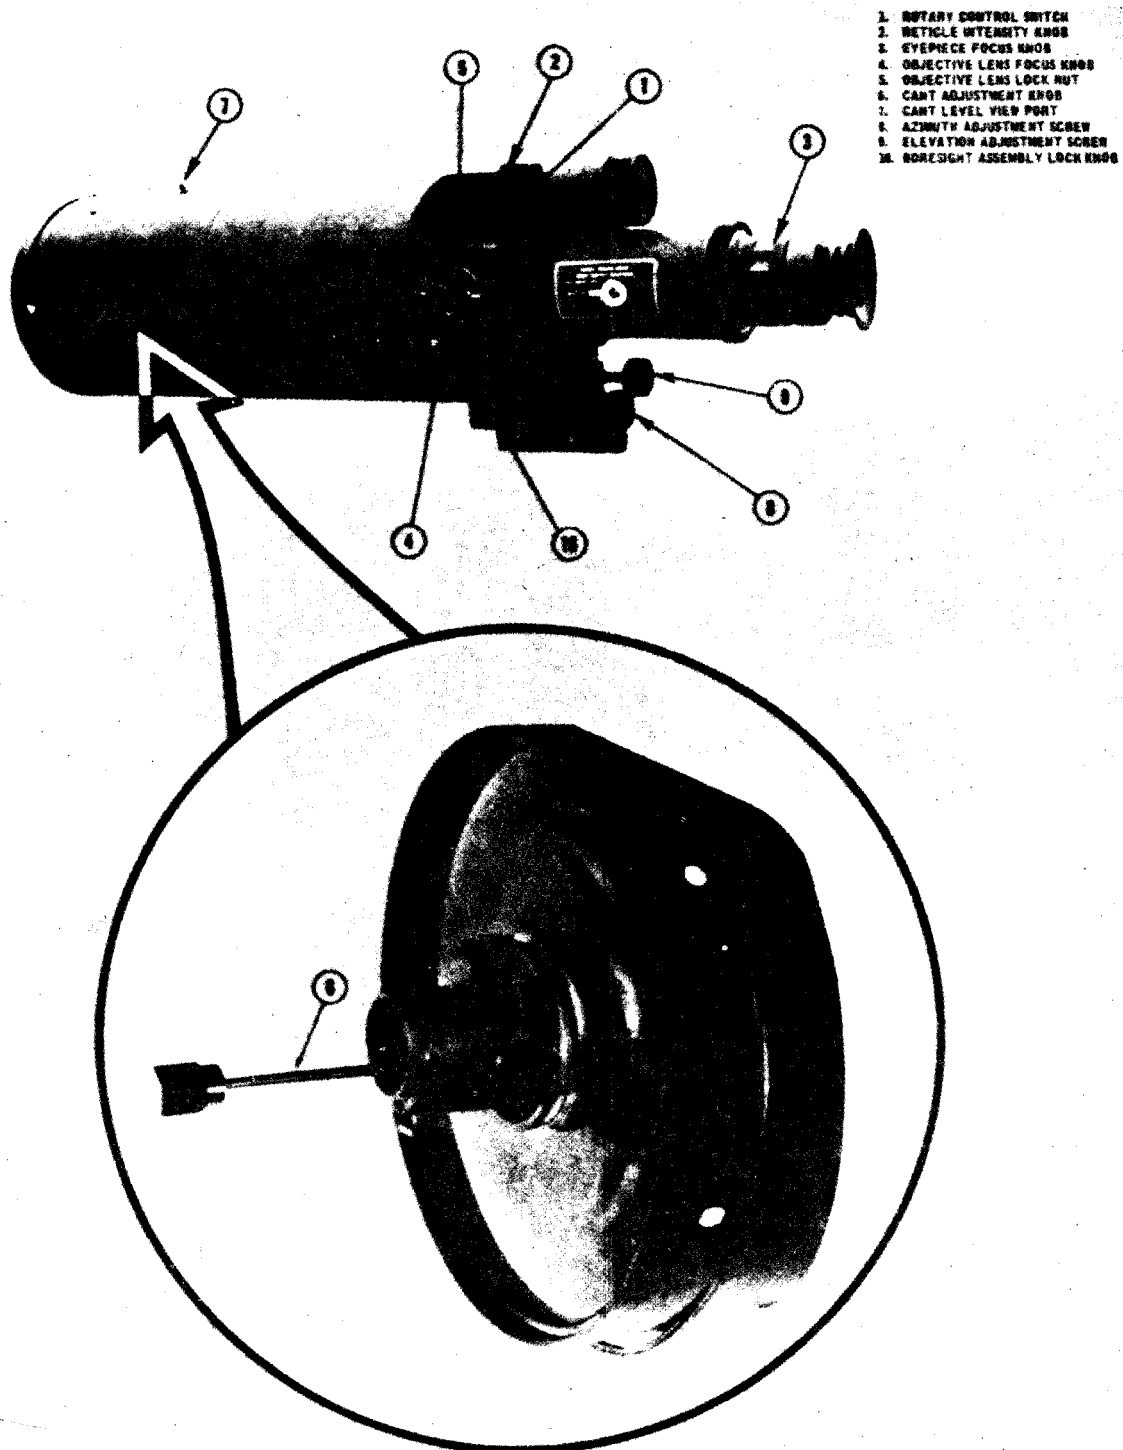

Figure 4. Sight controls.
**11. General.** Prior to operating the Sight, the operator must become familiar with the controls described in paragraph 12 (fig 4).
**12. Controls (Fig 4).** *a.* *A Rotary Control Switch (1).* Provides four positions: OFF, CANT LEVEL ILLUMINATION ON, TUBE ON, TUBE ON RETICLE ON.
*b.* *Reticle Intensity Knob (2).* Allows the operator to increase or decrease the brightness of the reticle under various light conditions. To increase the brightness of the reticle pattern, turn the reticle intensity knob counterclockwise. To decrease brightness, turn the reticle intensity knob clockwise.
*c.* *Eyepiece Focus Ring (3).* Provides diopter setting from +4 to -4 diopters for individual eye focusing.
*d.* *Objective Lens Focus Knob (4).* Allows the operator to focus the objective lens for range (distance) from 50 meters to infinity. Objects closer than 50 meters can be seen, but a clear image focus cannot be obtained.
*e.* *Objective Lens Lock Knob (6).* Allows the operator to lock the objective lens when the correct
*c.* Move the rotary control switch to the first Stop position (CANT ILLUMINATION ON) and open the cant level view port. Adjust the cant adjustment knob (fig 4) until the cant level